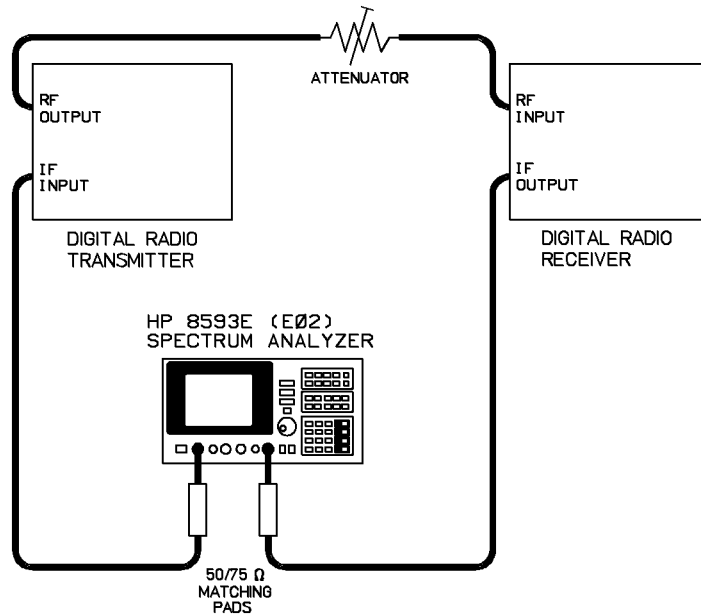

Figure 3-9. Link Loopback Setup
1. Connect the HP 8593E Spectrum Analyzer as shown in Figure 3-9.
The matching pads shown in Figure 3-9 have a power loss of approximately 5.7 dB per pad. Remember to take this into account when choosing the output power from the spectrum analyzer.